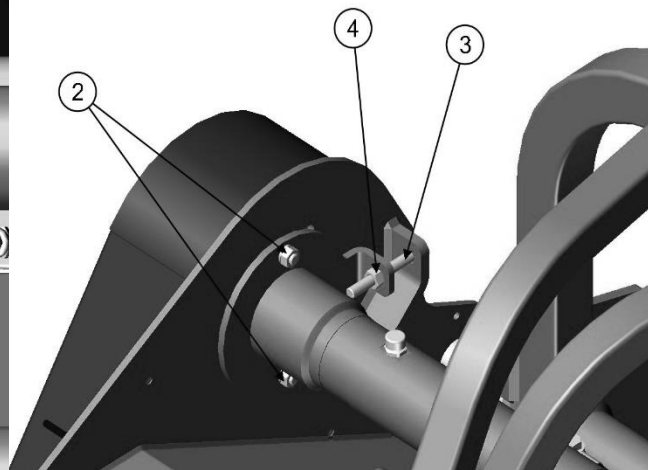

Figure 9
1. Loosen the four (4) bolts [Figure 9, Item 1] under the gearbox, which hold it onto the frame.
2. Loosen the two (2) nuts [Item 2] that fix the extension tube to the side plate of the frame.